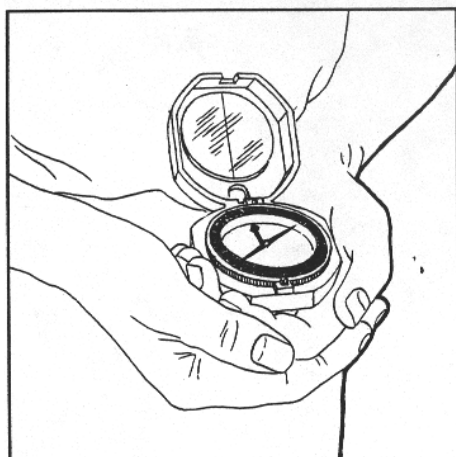

Fig. 7
3. TO TAKE A BEARING (See Figure 7)